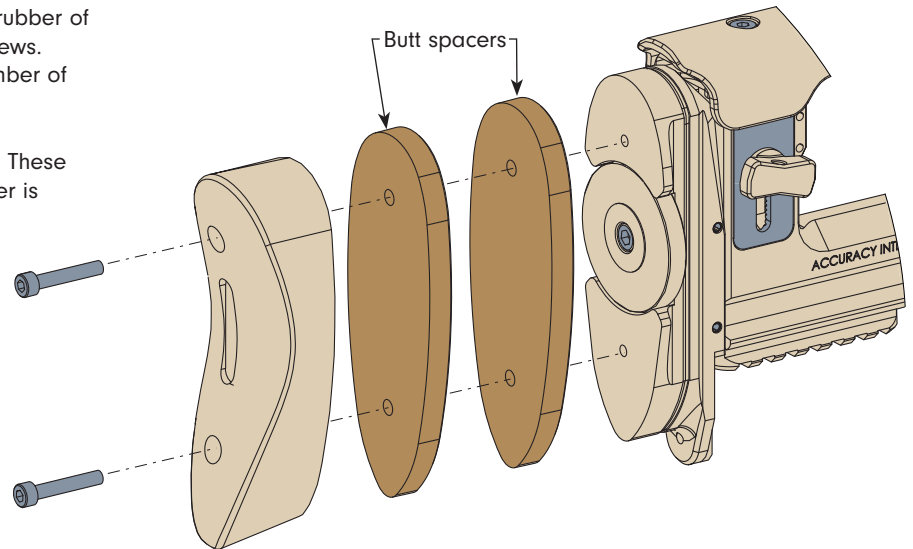

Fig 2-21
- Fit the butt and spacers, as shown in Fig 2-21.